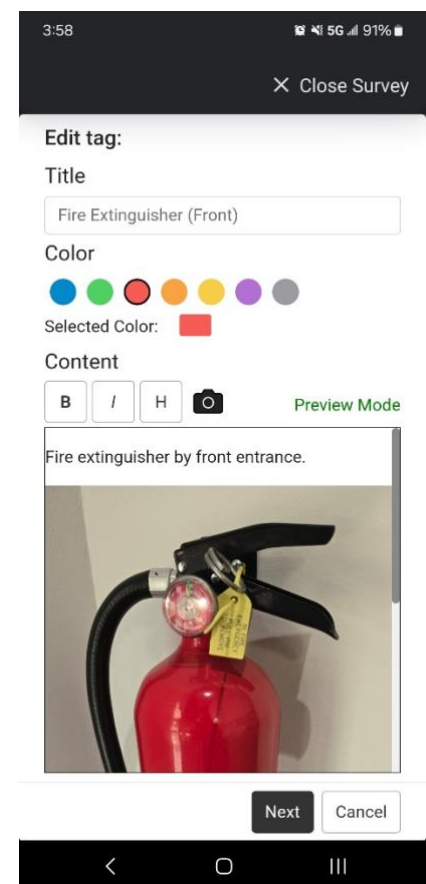

Figure 13 - Tag editor screen
3. On the tag editor screen (see Figure 13), you may enter the following information and make the following selections: